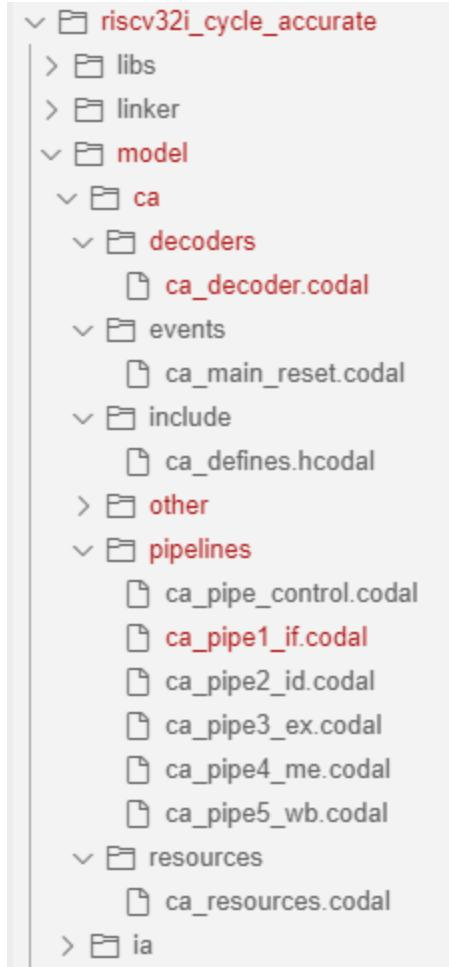

Figure 1: Cycle Accurate files under model/ca
- Review of the Cycle Accurate (CA) files to understand how they interact with each other to create a 5-stage pipeline design. Please refer to Figure 1: Cycle Accurate files under model/ca
- The nomenclature used for this project is all files associated with the Cycle Accurate (CA) model are prefixed with ca\_